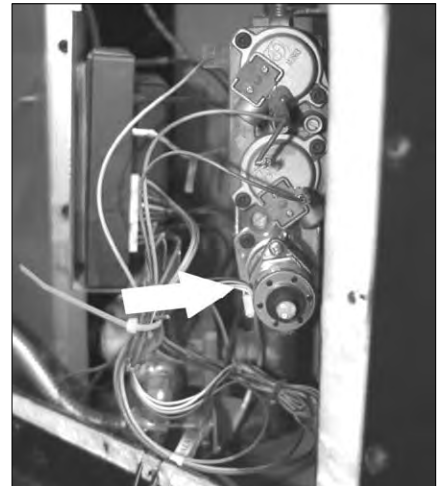

Figure 57: Servo Screws.
13. Using a T-20 safety driver, remove the two (2) screws that hold the servo regulator from the gas valve (Figure 57).